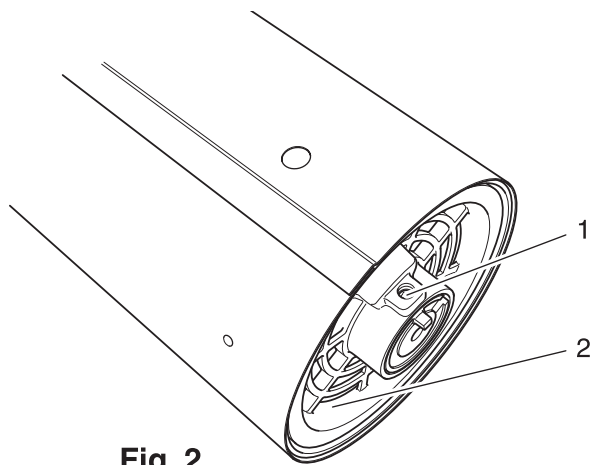

Fig. 2
- Loosen screws 1 of the left and right roller holders (fig. 2).
- Mount both roller holders 2 and secure them with screws 1 (fig. 2).